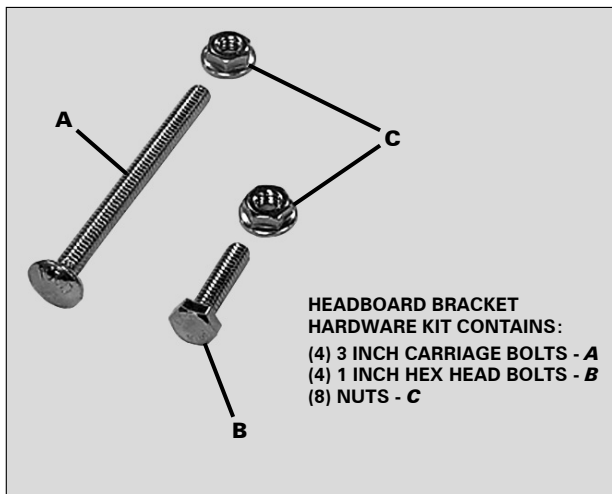
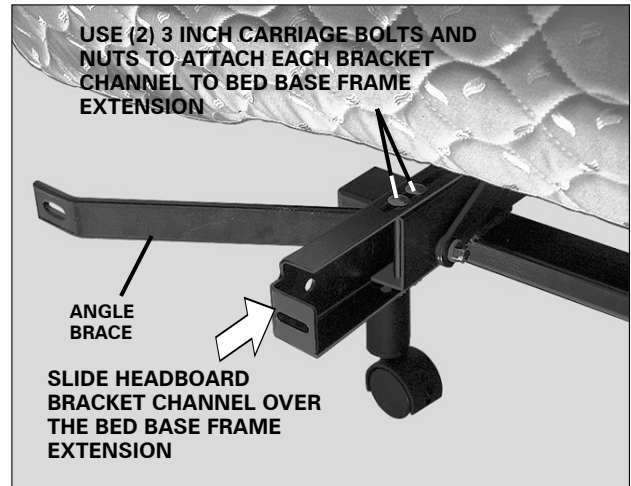

FIGURE 8: Headboard bracket hardware .
FIGURE 9: Headboard bracket channel installation (one each side of the head section of the bed).
- b. Slide one headboard bracket channel onto one side of the bed base frame. Using (2) carriage bolts/nuts (**FIGURE 8**) attach channel to base frame (**FIGURE 9**). Hand tighten bolts/nuts (loosely) to allow adjustment of the headboard bracket channels. Repeat procedure to install the other headboard bracket channel to the other side.
QUEEN SIZE HEADBOARD BRACKET ASSEMBLIES ARE SHOWN. TWIN SIZE HEADBOARD BRACKETS (OR SMALLER) ARE NOT EQUIPPED WITH ANGLE BRACE (FIGURES 9 and 10).